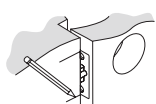

Figure 4a
- Mark center hole on edge of jamb even with the center of the Latch Bolt on door edge. (Figure 4a).
- If the hinges are on the left your door is Left Handed (Figure 4a).